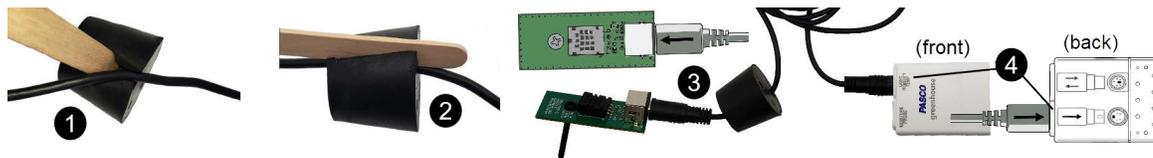

Figure 2. Insert the cable (1), push it through the cut (2); connect sensor at wide end of stopper (3); align arrows on back (4)
3. Use the craft stick to widen the cut in the two-hole stopper **1** as shown in Figure 2. Push part of the Sensor Module cable into the edge of the widened hole as shown.
Keep the lid components in place as shown in Figure 2 but feel free to experiment with airflow by adding or removing solid stoppers. On a separate paper, screenshot and print or sketch your code, explain how it works, and explain your data display choices. Save your work in SPARKvue for future reference.